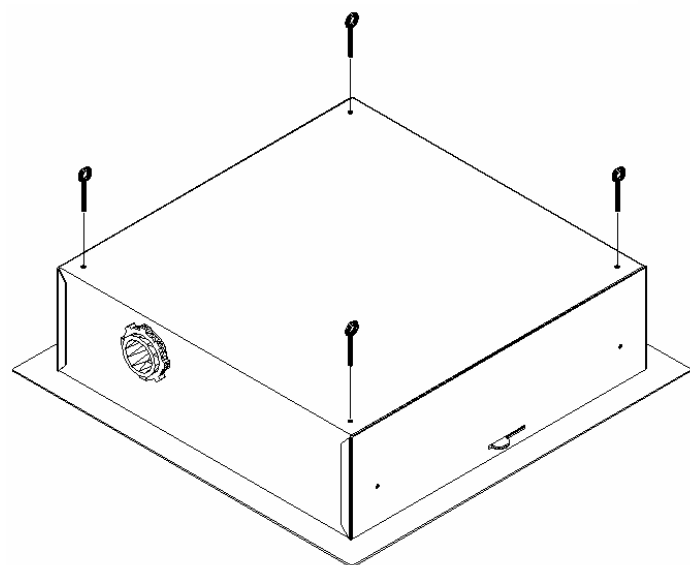

Figure 2 - Hardware installation.
Step 2 – Place the *ceiling enclosure assembly* on the work surface. Install the 4 eye bolts from the topside of the access point enclosure. The *eyebolts* will be used to secure the enclosure with grid wires. Remove one of the 1" trade size hole cover on the side of the enclosure and install the 3/4" cable clamp(s) (the side on which the cable clamp is to be installed will be determined the location the enclosure is to be installed and direction from which conduit will be brought into the enclosure – ref. *Figure 2*).